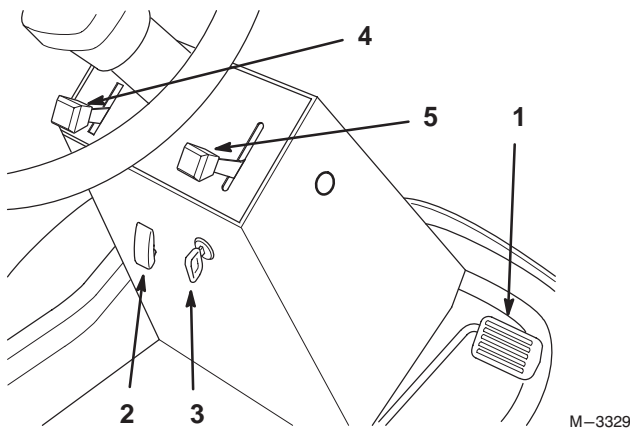

Figure 7
1. Move the throttle lever to “SLOW” (Fig. 7).
2. Turn the ignition key to “OFF” (Fig. 7).
1. Release pressure on the traction pedal to stop movement. (Fig. 7).
2. Lift the cover and move the PTO switch to the “ON” position (Fig. 7).
Closing the cover moves the PTO switch to the “OFF” position (Fig. 7).
1. Place your foot on the traction pedal (Fig. 7).
3. Slowly press on the upper pad of the traction pedal to move forward (Fig. 7).
3. Slowly press on the lower pad of the traction pedal to move rearward (Fig. 7).